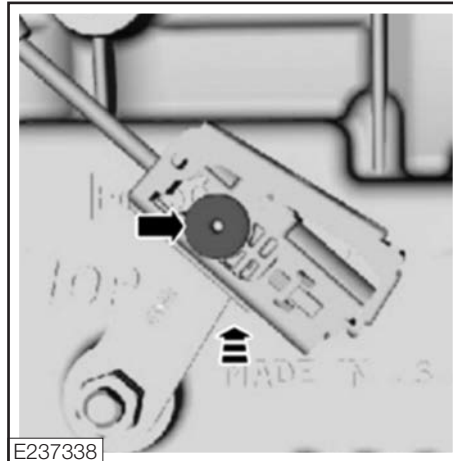

Figure 102
7. Close the adjuster lock (Fig. 102).